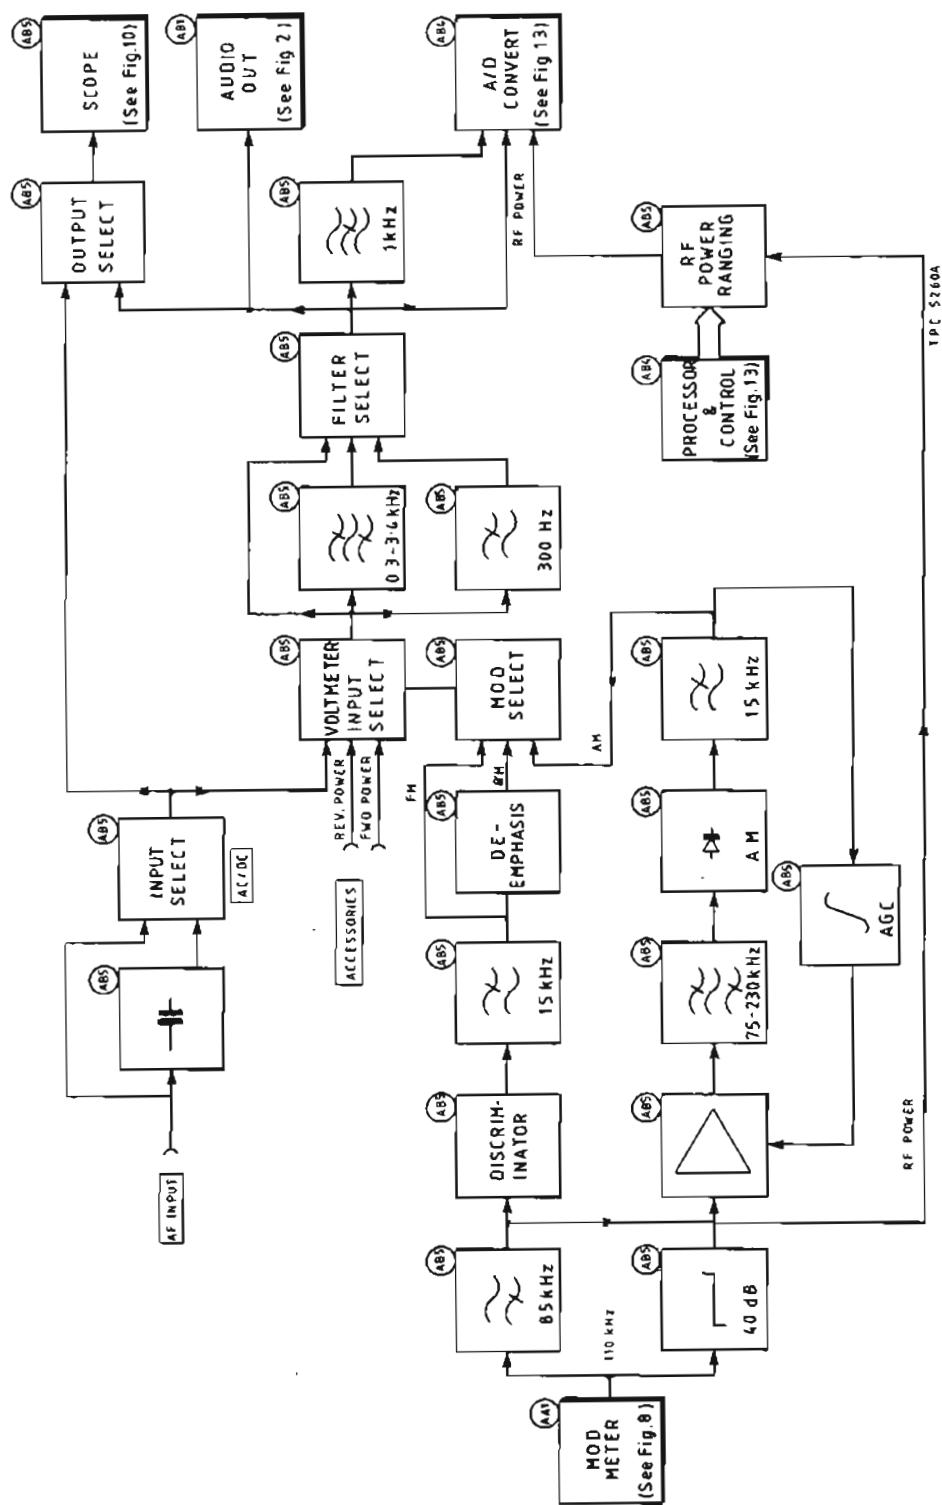

Fig. 9 Block diagram of demodulator, voltmeter and power meter
81. The input from the modulation meter on AA1 is sent by AB5 on two parallel paths (see Fig. 9). One, the a.m. path is via a 40 dB attenuator, an a.g.c. controlled amplifier and a band-pass filter to an a.m. detector. The second, f.m. path is via a high-pass filter to the f.m. discriminator. Both paths feed through 15 kHz low-pass filters, with de-emphasis applied on the f.m. path for f.m. The modulation selector connects the three inputs to the voltmeter input selector. This also connects to the optional r.f. directional power head at the ACCESSORIES socket and to the AF INPUT socket for a.f. or a modulated d.c. as selected by the AC/DC key. Switched filters implement the 15 kHz and 300 Hz low-pass and 0.3 to 3.4 kHz high-pass filtering. Output for monitoring purposes is taken to the audio amplifier on AB1. For voltmeter measurements, the signal is connected to an A-D converter either directly or via a SINAD filter. The r.f. power ranging circuit, operating under processor control, is also connected to the ADC. The output selector connects either the output from the filters or the a.f. input for feeding to the a.f. counter on AB4 and to the oscilloscope on AB2.